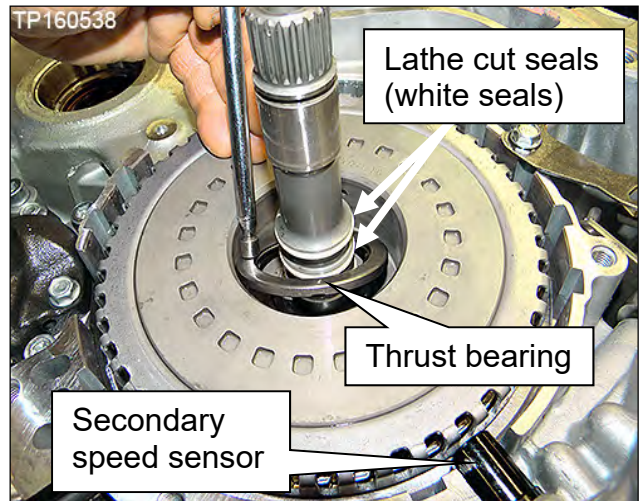

Figure 50
30. Remove the thrust bearing from the clutch assembly bore (Figure 50).
31. Wipe any metallic debris from the face of the secondary speed sensor (Figure 50).